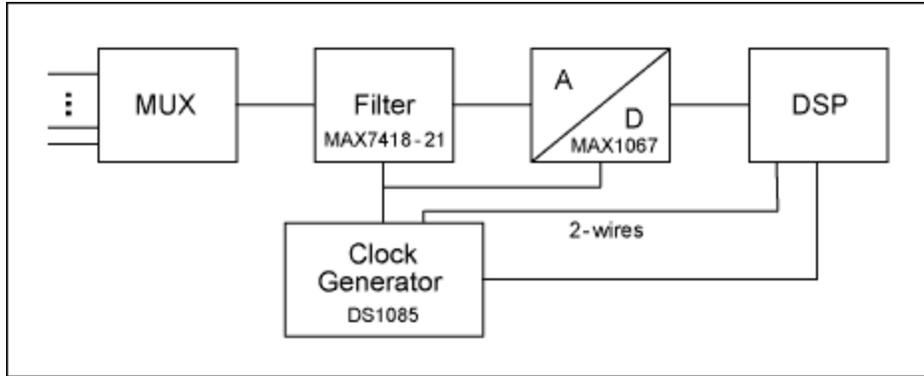

Figure 7. Schematic diagram of the realized data-acquisition system.
**Figure 7** shows an implementation of a data-acquisition system, based on the constraints discussed above. An ADC with 14-bit resolution and a maximum sampling rate of 200ksps (MAX1067 family) is used. This device needs at least 24 clocks per conversion. For the anti-aliasing filter, a member of the MAX7418-21 family is used. Within this family, different variants with different filter approximations, like Bessel, Butterworth, or elliptic can be found. The corner frequency is set to  $1/100 f_{CLK}$ . Considering the DSP takes control of the sampling of the converter (only one timer is used for that function), the same clock can be used for both the filter and the ADC, giving perfect synchronization. The clock is generated using the DS1085, which can generate two clocks; the second clock can be used for the DSP. The DS1085 can be programmed through a two-wire interface, providing the possibility of reprogramming the system during operation to different sampling rates, or only once, to achieve different functions with only one PCB.
The system shown in Figure 7 is designed with devices coordinated with each other. Cost and complexity are in an acceptable range. An additional advantage is the programmability, which creates immense flexibility, saving both design and logistical costs.